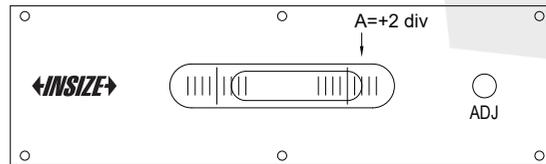

Fig.2
- b) After the bubble stops moving, read A on the scale (Fig.2).